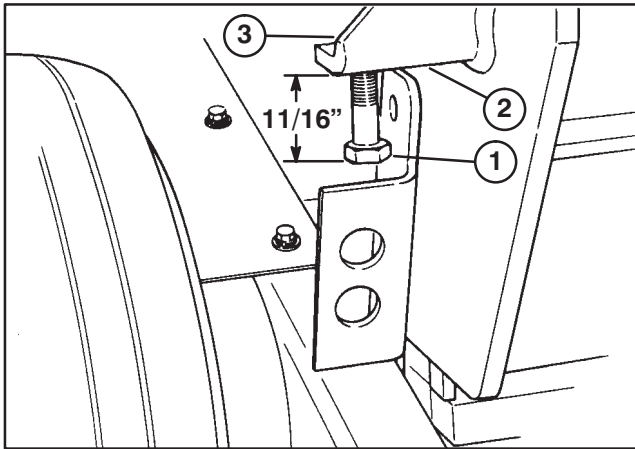

Figure 14
2. Loosen jam nut on top of adjusting bracket (Fig. 14).
3. Thread adjusting screw into bracket to increase coring depth and out to decrease depth (Fig. 14).
4. Best performance and coring depth is achieved when distance from end of screw head to bracket is 11/16” (Fig. 14).